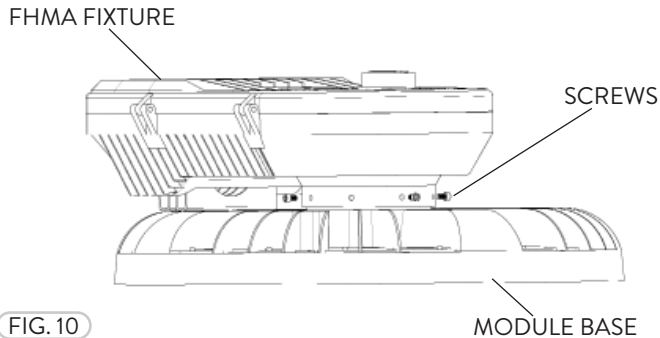

FIG. 10
- 1 The direction of the Module light projection of the FHMA fixture can be adjusted. Loosen the Screws (3) of the FHMA fixture (Fig. 10).